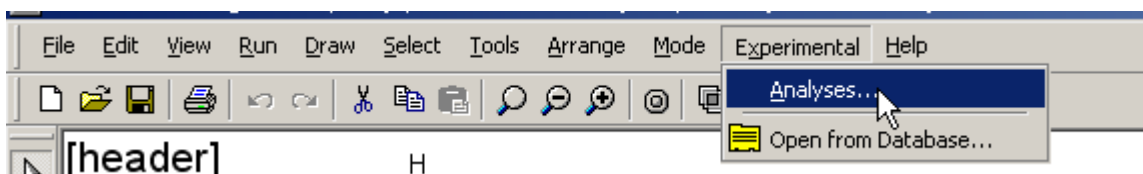
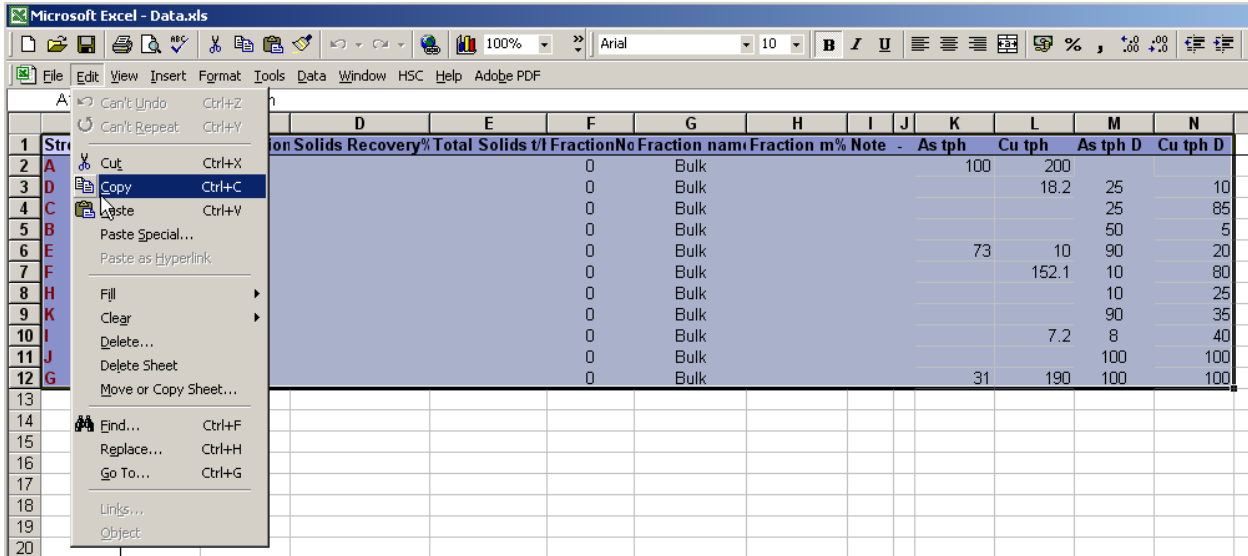

Figure 4. Experimental data.
Figure 6. Copying data into clipboard. The first cell on left top corner has to be the “Stream” cell.
2. In HSC go to the Analyses window (Experimental – Analyses, Figure 4). Create Stream Properties sheet: Select from the menu “Create – Stream Properties Sheet – Horizontal” (Figure 6)
3. In the MS Excel copy the experimental data into the clipboard. The cell “Stream” must be the first cell on top left (Figure 6).